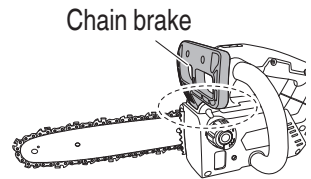

Fig. 46
5. Cleaning the chain brake (**Fig. 46**)